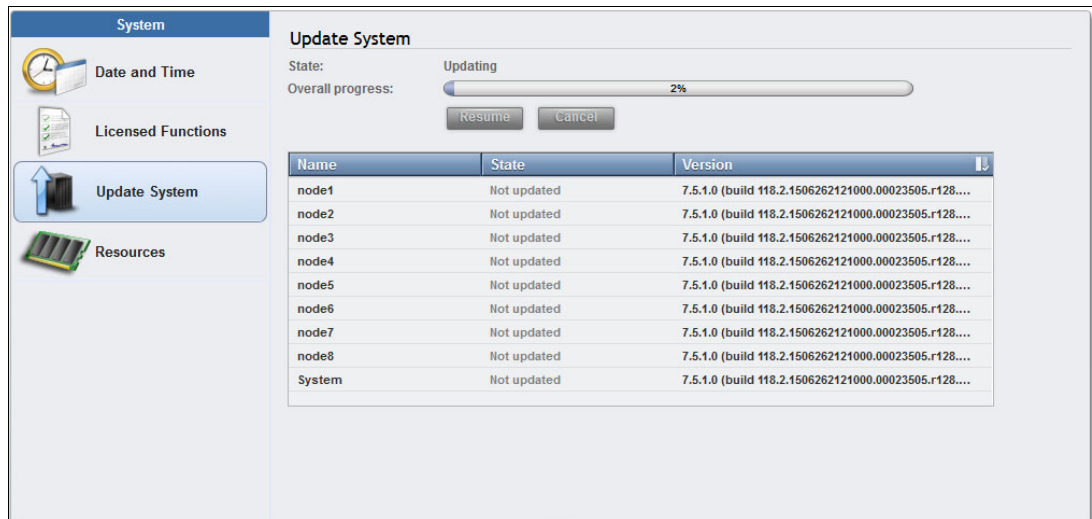

Figure 5-80 Overall Progress
2. After uploading the files, the GUI shows the overall progress bar. It takes one to two minutes after uploading the files before the overall progress status is shown. Figure 5-80 shows the information for a cluster of eight nodes and four building blocks.